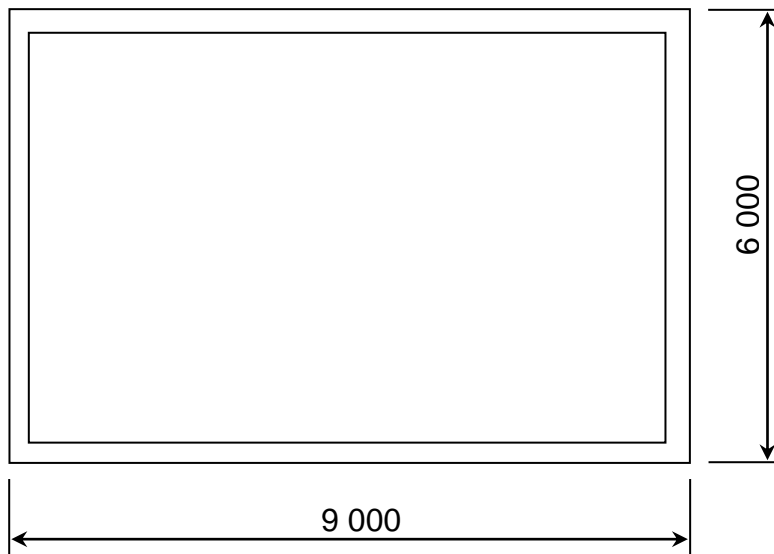

FIGURE 4.6
- 4.6 To calculate the quantities and perimeter of a structure, it is necessary to determine the centre line first. Determine the centre line of the 220 mm cavity brick wall structure in FIGURE 4.6. (5)